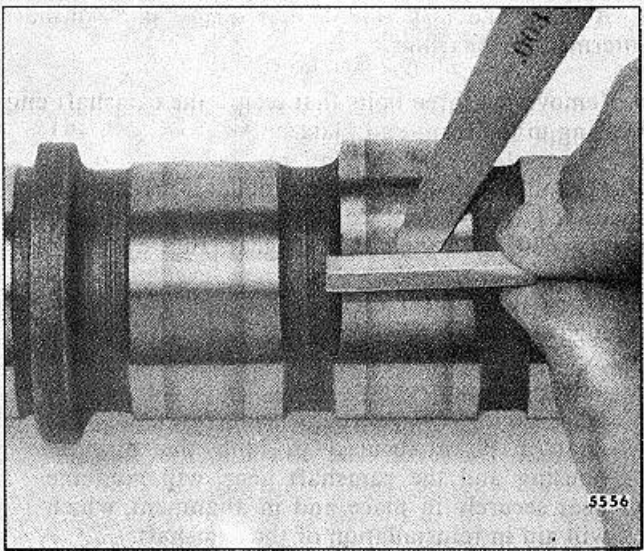

FIG.7 - Checking Cam Lobe Wear
1. Measure the flat on the injector rise side of the cam lobes with a tapered leaf set of feeler gages (.0015" - .010") and a piece of squared hard material 1/8" x 3/8" x 1" as shown in Fig. 7.